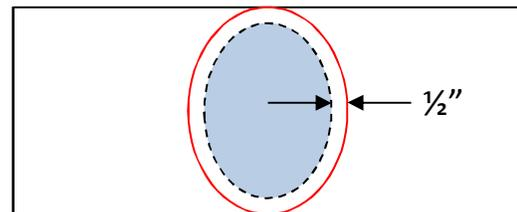

FIGURE 11
- Make a series of slits, cut from the opening outward toward the marked circle to create tabs (figure 11 & 12).